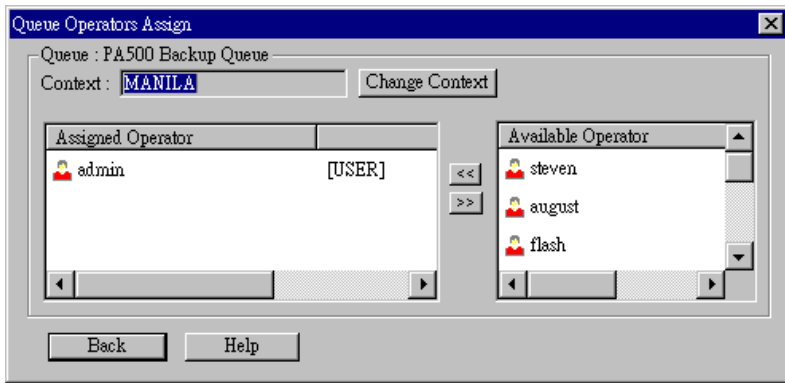

Figure 38: Assign Operators to Queue (NDS PS mode)
- **Operator** – Assign Operators to the NetWare Print Server object. (Optional) These operators will then have permission to manage the NetWare Print Server object. The screen is identical to *Figure 38: Assign Operators to Queue (NDS PS mode)*.